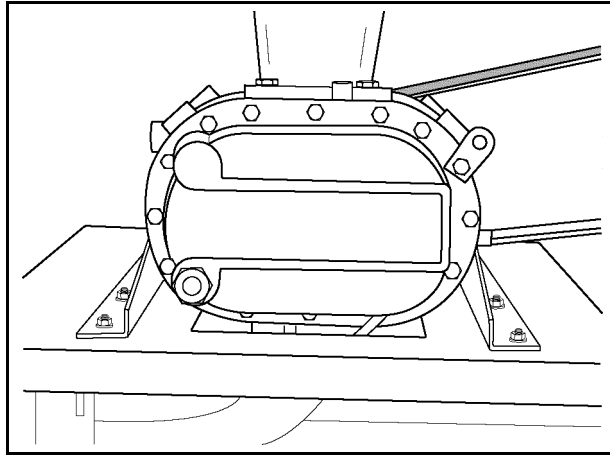

Figure 7G
7. The oil level should be at the center of the sight glass on the blower. Add part number MS5389 if required. **DO NOT OPERATE BLOWER UNTIL CORRECT OIL LEVEL IS INDICATED!** The 4" roots blower has sight glasses on both ends. Be sure oil levels are indicated on both sight glasses. (See Figure 7G).